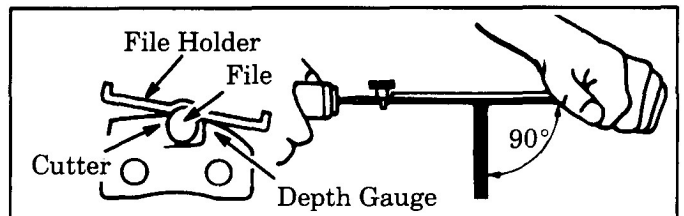

Figure 28
- a.) Position the file holder on the top plate of the cutter and depth gauge. Figure 28.